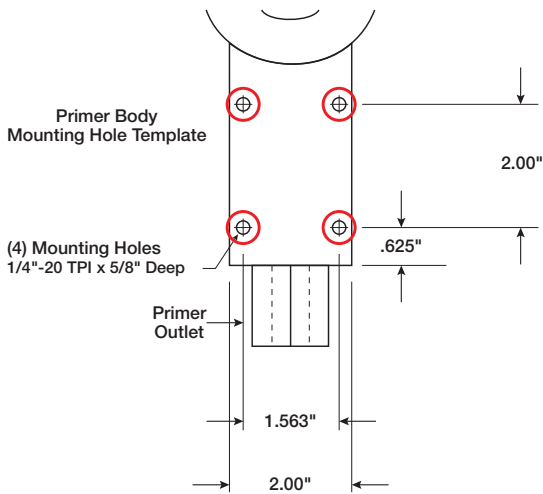

Figure 1
2. Fabricate a Primer mounting bracket. See **Figure 1** for the hole pattern of the 1/4-20 tapped holes on the primer body. Position the primer **above** the highest suction point on the fire pump. The primer must be mounted in a vertical position with the three discharge ports facing down. Note that water may discharge from the primer, so locate the primer in a spot where any discharge will not damage other components.